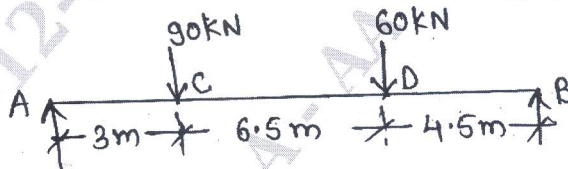

Fig. Q8
- 8 Determine deflection under each point load using Macaulay's method. Also find maximum deflection. Take  $E = 210 \times 10^6 \text{ kN/m}^2$ ,  $I = 64 \times 10^{-4} \text{ m}^4$ . Refer Fig. Q8. (20 Marks)